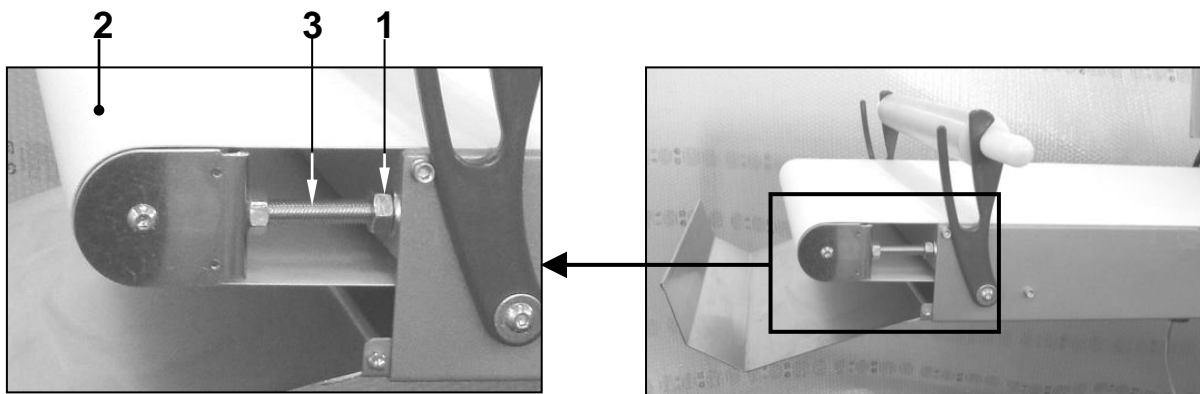

Fig. 7.1
With reference to Figure 7.1, use a spanner to turn the nuts ref. 1 on each side of the bench to move the roller ref. 2 forwards/backwards using the threaded rods ref. 3. Tighten the belts just enough (or just a little more) so